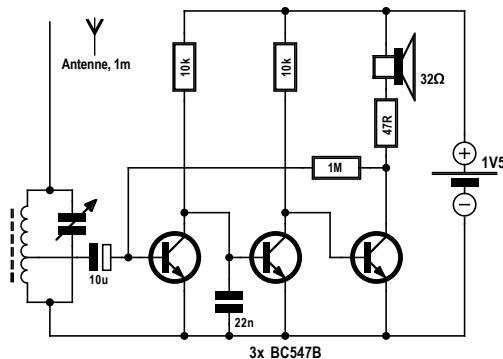

Figure 2. A regenerative receiver with higher gain and better selectivity.
**Figure 2** shows a simple radio with the same sort of receiver stage, but with more gain and better selectivity. It has a tunable resonant circuit at the input. Depending on the coil characteristics, this radio can receive signals over a range extending from the long-wave band up to the upper short-wave region. The receiver coil is tapped at approximately 10% of its length. This keeps the damping factor of the resonant circuit relatively low, which means it has a good Q (quality) factor (see the 'Resonant Circuits' inset). This tuned circuit allows a specific broadcast signal to be selected. With a total of three transistors and a supply voltage of just 1.5 V, this circuit works well as a headphone receiver. Incidentally, this circuit has a certain similarity to the TAPIR HF Sniffer published in the July & August 2012 issue of Elektor, which also has three transistors but operates as a wideband regenerative receiver.